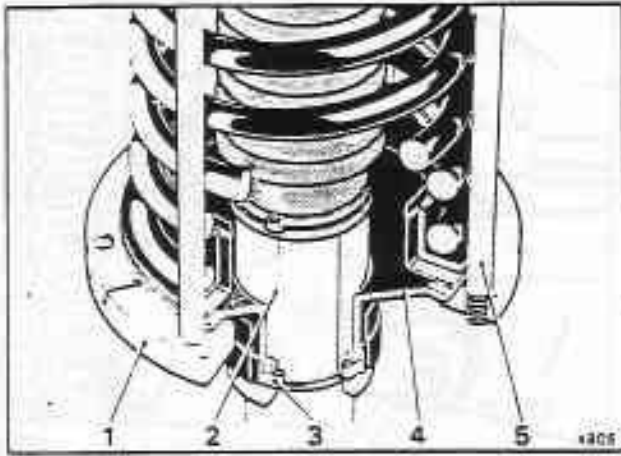

Fig. H6-2 Front height adjustment
5. Smear the collets with grease to hold them in position on the damper. Always ensure that the thinnest collets are fitted to the top of the selection (see fig. H6-2).